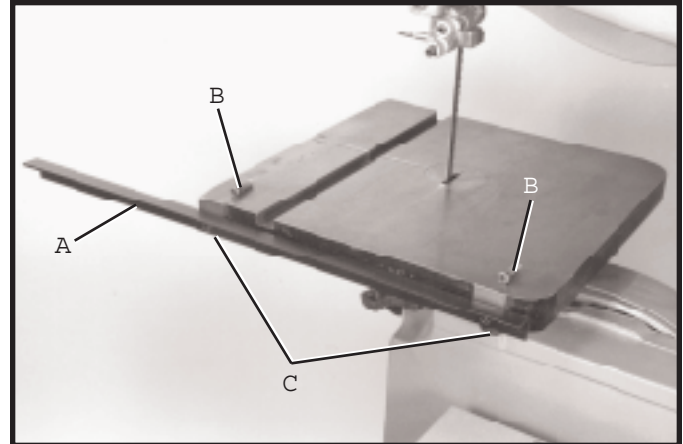

Fig. 22
2. Assemble rear guide rail (A) Fig. 22, to band saw table using 1/4-28 x 1 hex socket head screws (B), at locations (C). Do not completely tighten hardware at this time.